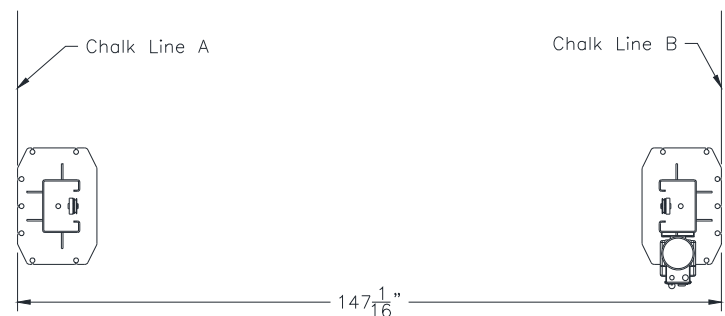

Fig. 2 – Column Layout
- Using the Overall Width (C) Dimension from **Fig. 2**, chalk two parallel lines on the floor within 1/8" tolerance. Erect both column assemblies. Align the base plate edges to the chalk lines.